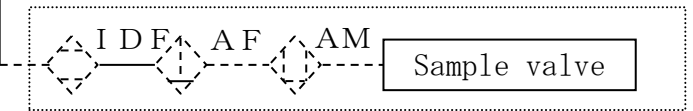

Fig.1
•Lubrication : Non-lubricated [Fig.1]